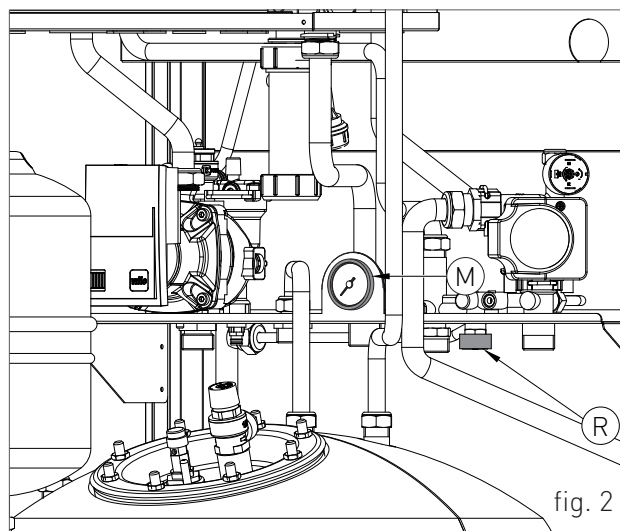

fig. 2
3. open the feeding tap "R" (fig. 2);
5. use pressure gauge "M" (fig. 2) to make sure that the system pressure reaches 1.2 bar (fig. 4);
6. after performing this operation, make sure that the loading tap "R" (fig. 2) is properly closed.